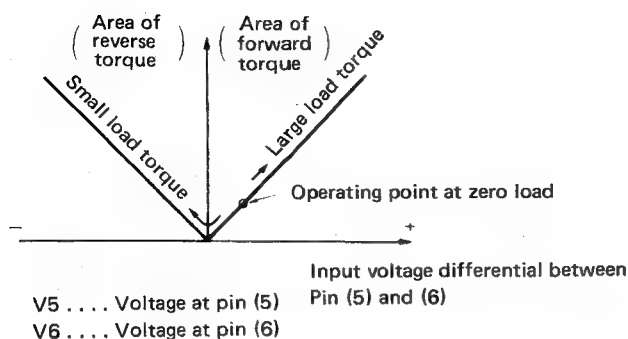

Fig.10-2 PA2008 absolute value amp input/output response.
- When the motor starts to rotate, the signal from the frequency generator (FG) at the motor rotating section is shaped into a 50% duty square wave by the waveform shaping block and is applied to pin ⑮ (RG ref) and pin ⑬ (FG IN) of PA2007. The frequencies obtained here are 55.55 Hz for 33 rpm and 75 Hz for 45 rpm.
- On the other hand, the 6.144 MHz signal of the crystal oscillator installed outside the oscillation and division IC PD1003 is divided to 1/4096 by the division circuit of PD1003. This signal is converted to phase comparison sampling pulses by a division ratio selection circuit. At 45 rpm, the signal is divided to 1/20 (75 Hz) and for 33 rpm, the signal is divided to 1/27 (55.5 Hz), and applied to pin ⑦ of PA2007.
- The buffer amp 1 and 2 outputs are combined and the output (pin ⑪) for comparison with the reference voltage is sent to pin ⑥ of the absolute value amp of PA2008.
- At absolute value amp PA2008, the input signal is compared with the reference voltage (Vref) from pin ⑫ of PA2007 and the motor winding current is generated according to the voltage difference.
- Since the speed does not reach the rated speed when the motor is started, the voltage is lower than the reference voltage (Vref; 5.15V). Therefore, the absolute value amp gives a command which generates a positive torque to the rotating direction command circuit so the motor speed is raised. Then the motor gradually reaches constant speed. (See Fig. 10-2.) (When the motor speed is faster than the rated speed, since the voltage is higher than the reference voltage, the absolute value amp applies reverse braking torque to the rotating direction command circuit so the motor speed drops. Then the speed returns to the rated speed.)